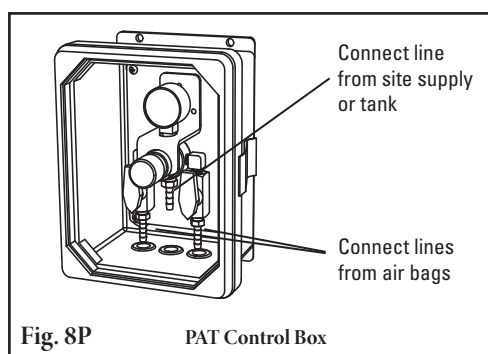

Fig. 8P
**8P. Connect the supply lines and set tension pressure.** With the parts supplied, attach a line to each air bag and run the lines to the outlet side of the control box (Fig. 8P). **NOTE:** Be sure lines are safely away from the belt. Connect a line from the inlet side of the box to the site's supply, or air tank. Test the connections for leaks and set the pressure per the chart on the control box (also shown to right).